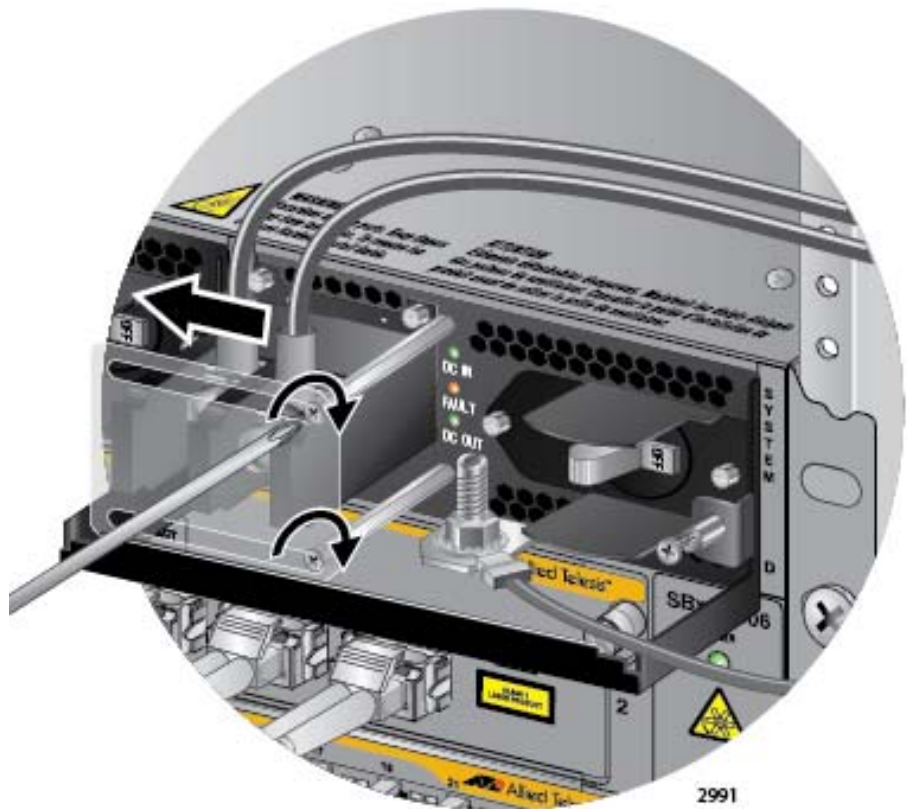

Figure 130. Closing the Plastic Cover over the Terminal Connectors
8. Slide the plastic cover to the left and lightly tighten the two screws with a #1 Phillips-head screwdriver to secure the cover. See Figure 130 on page 197. You might need to slightly lift the locking handle to access the bottom screw.
6. Slide the plastic cover to the left and lightly tighten the two screws with a #1 Phillips-head screwdriver to secure the cover. See Figure 130 on page 197. You might need to slightly lift the locking handle to access the bottom screw.